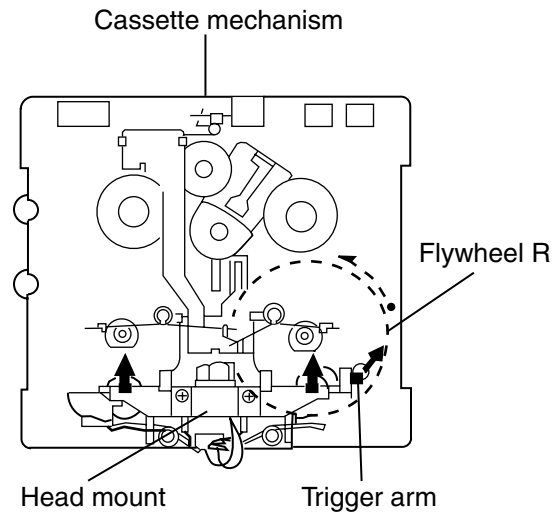

Fig.1 (Mechanism A side)
■ **Removing the playback, recording and eraser heads (See Fig.1~3)**
1. While shifting the trigger arms seen on the right side of the head mount in the arrow direction, turn the flywheel R in counterclockwise direction until the head mount has gone out with a click (See Fig. 1).